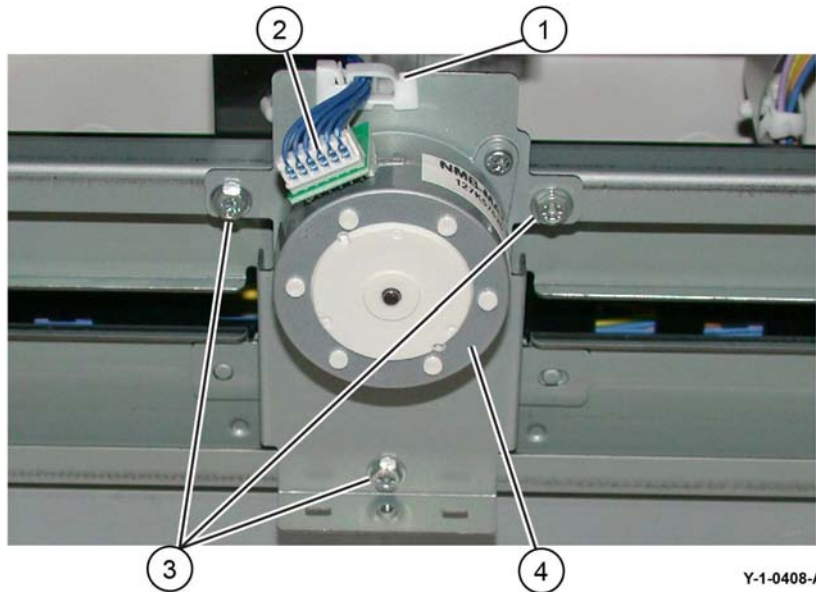

Figure 2 Booklet stapler move motor removal
3. Remove the booklet stapler move motor, Figure 2:
- a. Release the harness from the clamp (1).
- b. Disconnect the connector (2).
- c. Remove three screws (3).
- d. Remove the booklet stapler move motor (4).